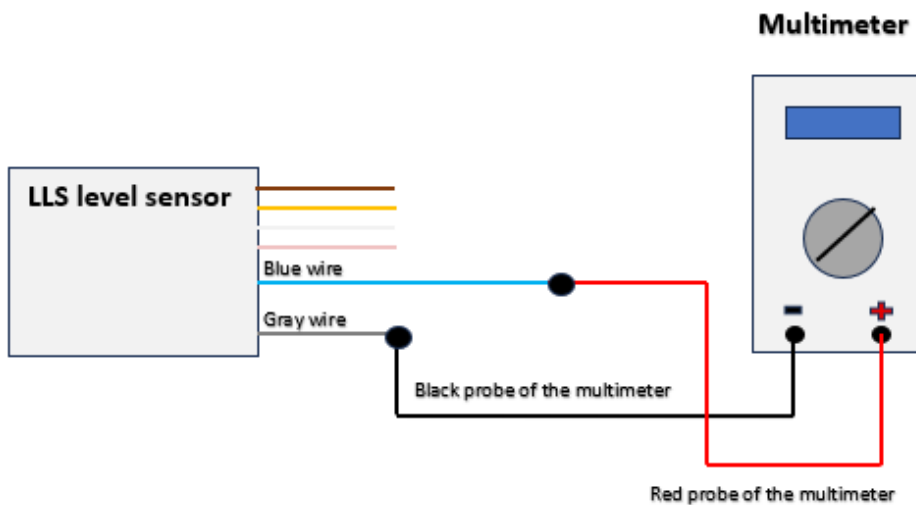

Fig. 11 Connection Diagram
2. Assemble the connection circuit according to "Fig. 11 Connection Diagram".